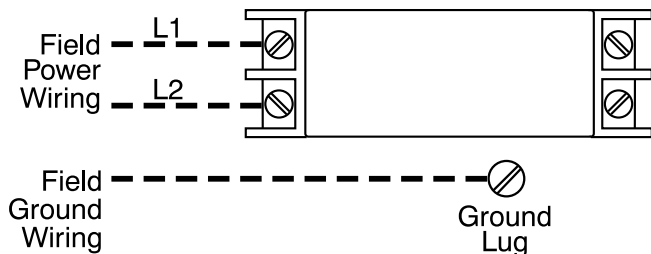
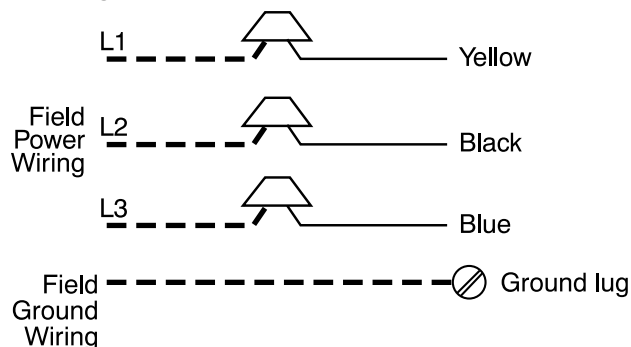
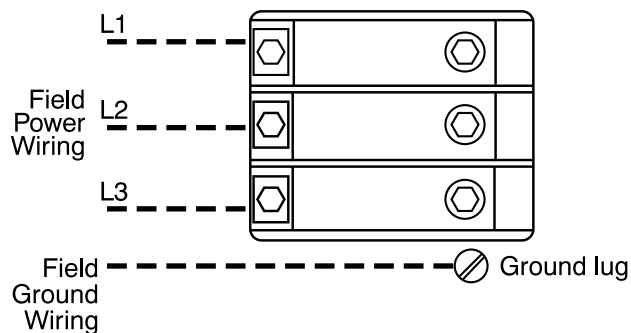

Fig. 12 – 3, 5, 8, 9 10 kW Non-fused Heaters (9 kW is field convertible to 3-phase. See (Power Connections on p7).
Fig. 16 – 15 kW 3-Phase Heater
Fig. 17 – 18 kW 3-Phase Heater
1. Unprotected heaters: See Fig. 12, Fig. 16, and Fig. 17.